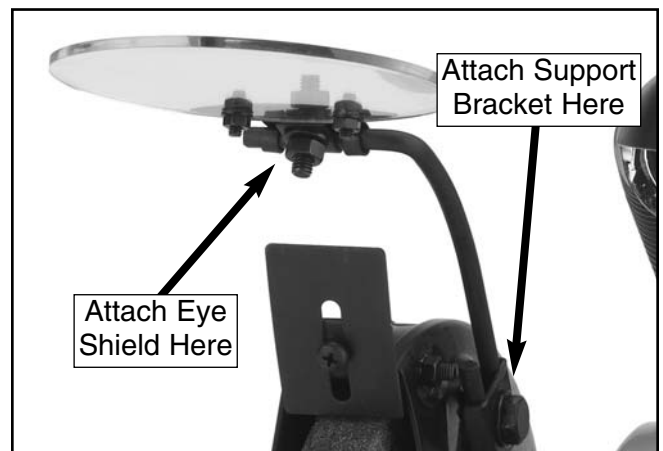

Figure 8. Eye shield and support bracket attached.
2. Attach the eye shield to the support bracket as shown in **Figure 8** with the included 6mm carriage bolt, washer and hex nut. Use the 8mm hex bolt and washer to attach the support bracket to the right wheel cover.